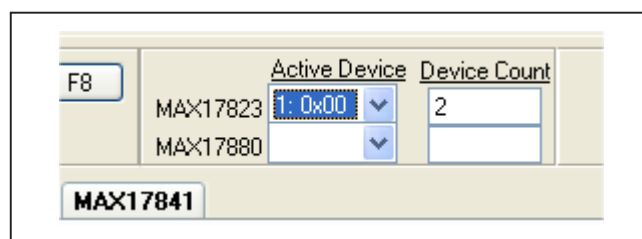

Figure 3. Active Device Drop-Down List
1. Select the device to be written to from the **Active Device** drop-down list (Figure 3).